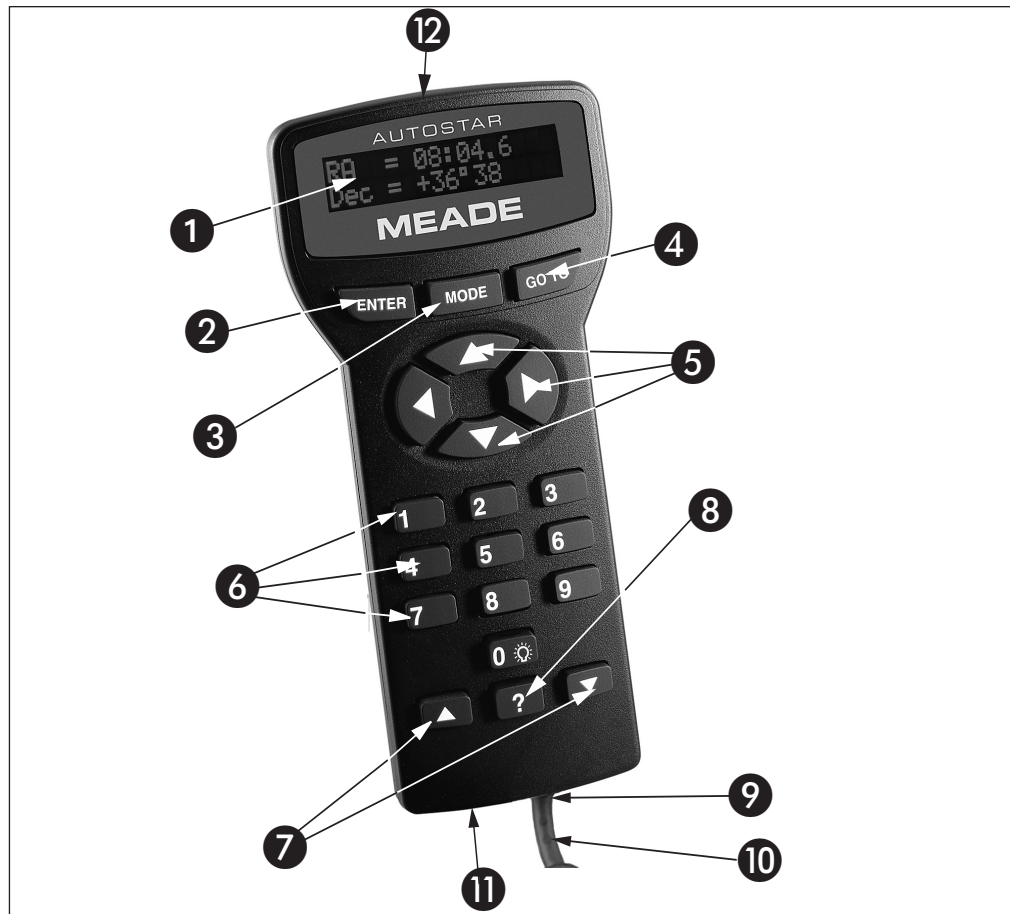

Fig. 2: The LX90 AutoStar Handbox.
- ❼ **Fork Arms:** Hold the optical tube in place.
- ❽ **Focus Knob:** Moves the telescope's primary mirror in a finely controlled motion to achieve precise image focus. The LX90 telescope can be focused on objects from a distance of about 25 ft. to infinity. Rotate the focus knob counterclockwise to focus on distant objects, and clockwise to focus on nearby objects.
- ❾ **R.A. Lock:** Controls the manual horizontal rotation of the telescope. Turning the R.A. lock counterclockwise unlocks the telescope, enabling it to be freely rotated by hand about the horizontal axis. Turning the R.A. lock clockwise prevents the telescope from being rotated manually, and engages the horizontal motor drive for AutoStar operation.
- ❿ **Right Ascension (R.A.) Setting Circle:** See **APPENDIX A**, page 49, for detailed information.
- A. Handbox (HBX) Port:** Plug the AutoStar coil cord (**Pg10, Fig. 2, 10**) into this port.
D. Auxiliary (AUX) Port (2): Provides connection for Meade accessories. See **OPTIONAL ACCESSORIES**, page 42.
If MODE is pressed and held for two seconds or more, information about the telescope's status displays. When the status displays, press one of the Scroll keys (**Pg. 10, Fig. 2, 7**) to display the following information:
- 9 Coil Cord Port:** Plug one end of the AutoStar coil cord into this port (**pg. 10, Fig. 2, 9**) located at the bottom of the AutoStar handbox.